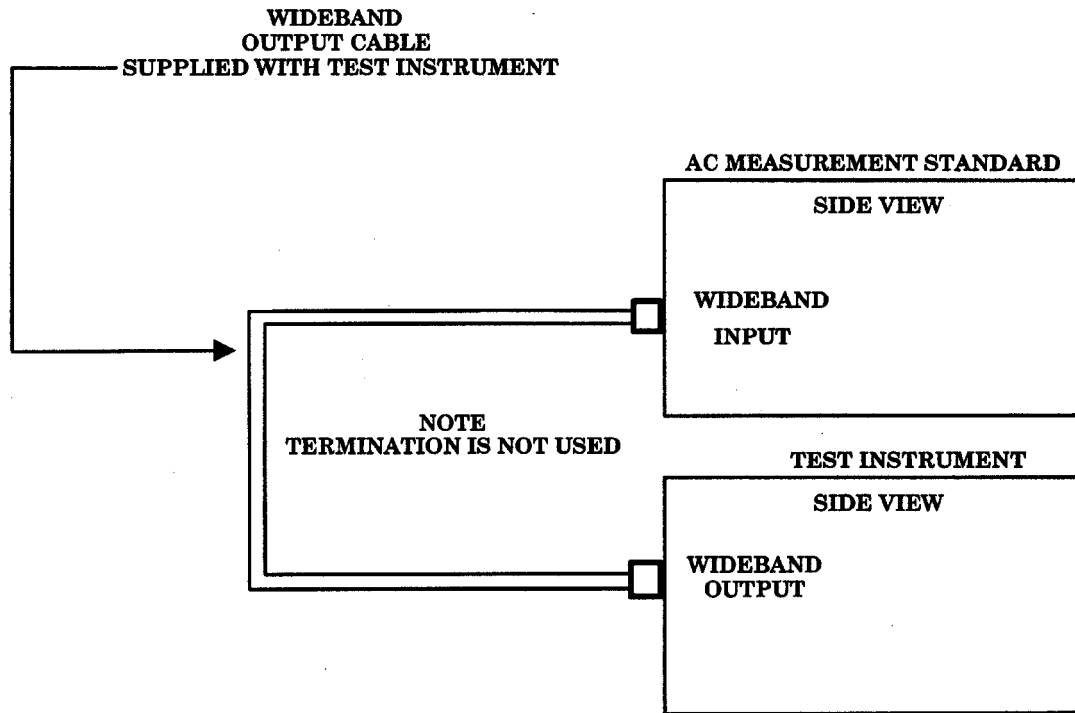

Figure 13. Wideband flatness.
- (1) Connect equipment as shown in figure 13. Press the **WBND** pushbutton on the ac measurement standard.
- (1) Connect equipment as shown in figure 13.
- (2) Set rear panel **CALIBRATION NORMAL/ENABLE** switch to **ENABLE**.
- (3) Press the **WBND** pushbutton on the ac measurement standard.
- (4) Call up the TI wideband flatness calibration routine by pressing the soft key sequence **SETUP MENUS**, **CAL**, **CAL** (again) and **WIDEBAND FLAT**.
- (5) Enter the present ambient air temperature as prompted and press **ENTER**; press **ENTER** again.
- (6) Press **OPERATE** pushbutton. Wideband flatness calibration starts with a nominal 3 V at 1 kHz output. If TI displayed value is not 3.00000 V, use output adjustment knob to enter this value. When this is completed, the **Error** indication should indicate 0.0 ppm.
- (7) When the ac measurement standard settles to a reading, press the **SET REF** soft key. (This is the 3 V reference value from which all 3 V frequencies will be compared.)
- (8) Press **ENTER** pushbutton; the frequency will advance to the next value.
- (9) Adjust the TI output adjustment knob to bring the ac measurement standard error display to indicate 0 PPM (± 30 PPM); then press **ENTER** pushbutton.
- (10) Repeat (9) above for each frequency displayed through 30 MHz.
- (11) Press the **CLEAR REF WBND** soft key on the ac measurement standard. The TI wideband output should nominally be 1 V, 1 kHz. If TI displayed value is not 1.00000 V, use output adjustment knob to enter this value. When this is completed, the **Error** indication should indicate 0.0 ppm.